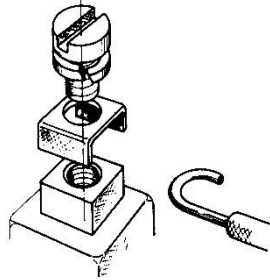

Fig. 5: Connecting the earthing equipment conductor
3. Connect earthing equipment conductor to earthing screw as shown in Fig. 5.